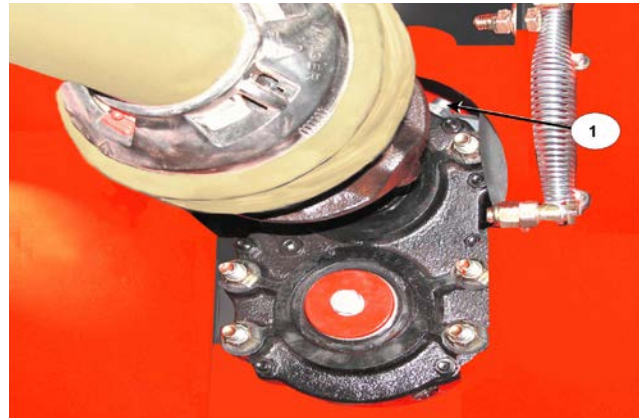

Figure 4: Remove gearbox fill plug
3. Remove the top oil fill plug (1) on the main drive gearbox, see *Figure 4*.